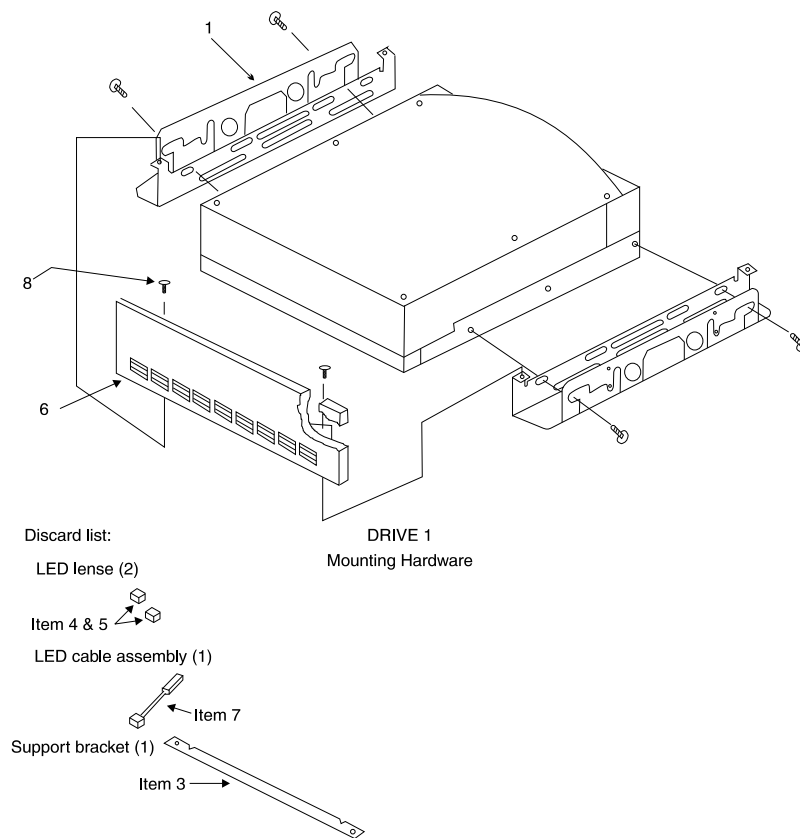
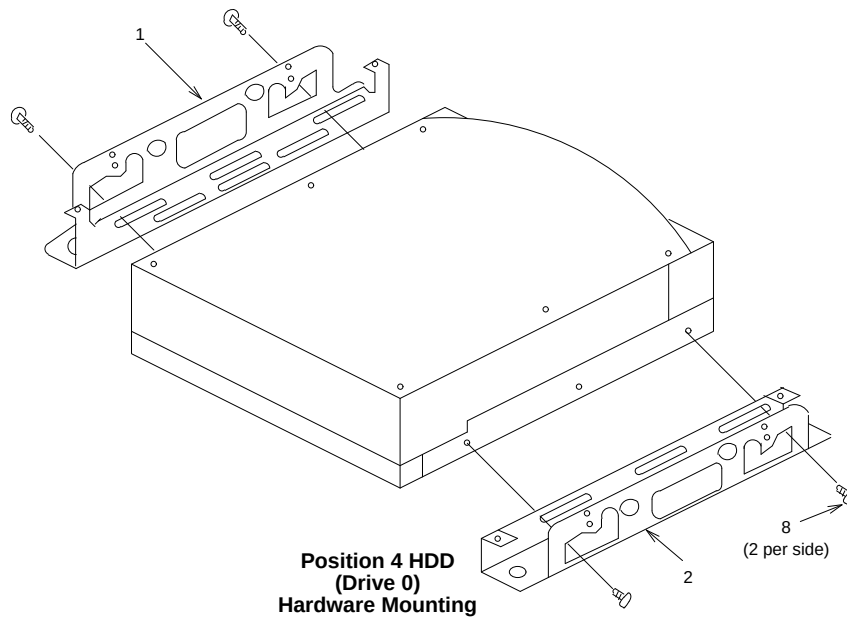

Figure C-16. Position 3 Hard Disk Drive Mounting Kit
Figure C-17. Position 4 Hard Disk Drive Mounting Kit
The following procedures detail removing and installing a Hard Disk Drive (HDD) in the MAP/40. There may be two hard disk drives, located in Position 3 and Position 4 of the peripheral bay. The HDD in Position 3 (Figure C-16) is named "Drive 1". The HDD in Position 4 is named "Drive 0" (Figure C-17). Procedures will vary depending upon which drive is in need of replacement.
13. Place the defective hard disk drive on an ESD protected work bench. Loosen and remove two Phillips head screws on each side of the HDD to release it from the mounting brackets. These screws are shown as Item(s) 8 in Figure C-16 (Position 3 HDD) or Figure C-17 (Position 4 HDD).
5. Hold the new HDD by the metal sides and carefully re-assemble to the mounting brackets, as shown in Figure C-16 or Figure C-17. Re-secure the HDD using the four Phillips head screws removed in Step 13 of "Removing the Hard Disk Drive".